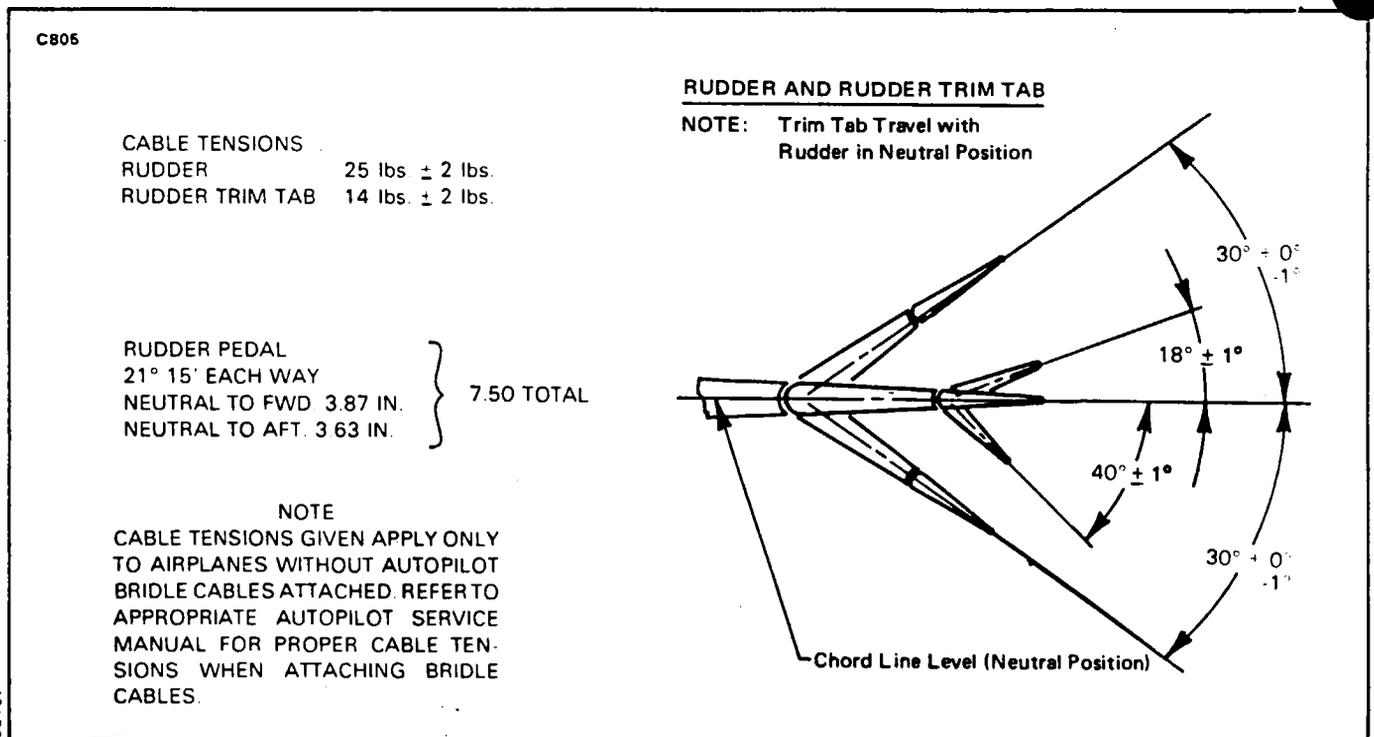

Figure 27-14. Rudder and Trim Tab Control Travels and Cable Tensions
5. Set cable tension per Figure 27-14 and check rigging and adjustment.
3. Set cable tension per Figure 27-14 and rigging and check adjustment.
12. Connect rudder cables to the pedal assembly and set cable tension per Figure 27-14 and check rigging and adjustment per instructions given in this chapter.
- B. Adjust the turnbuckles at fuselage station 100.00 to obtain proper cable tension, per Figure 27-14, and to align the rudder at neutral position. Neutral position of the rudder may be established by aligning vertically the forward overhang at the upper portion of the rudder with the vertical fin or with the use of the fabricated rudder rigging jig. (A rigging jig and pointer may be fabricated from specifications given in Chapter 95.)
- G. Set rudder with stops to the degree of travel as given in Figure 27-14 and lock stops.
7. Set cable tension with the turnbuckles at station 287.50 per Figure 27-14 and check rigging and adjustment.